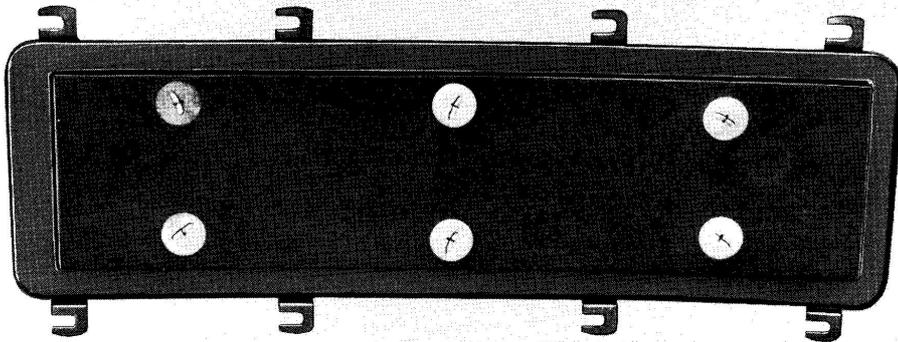

Fig. 3. Insulation attached to battery compartment cover.
- g. Drill six 3/16" holes in the battery compartment cover. Refer to Fig. 3 for the approximate location of these holes.